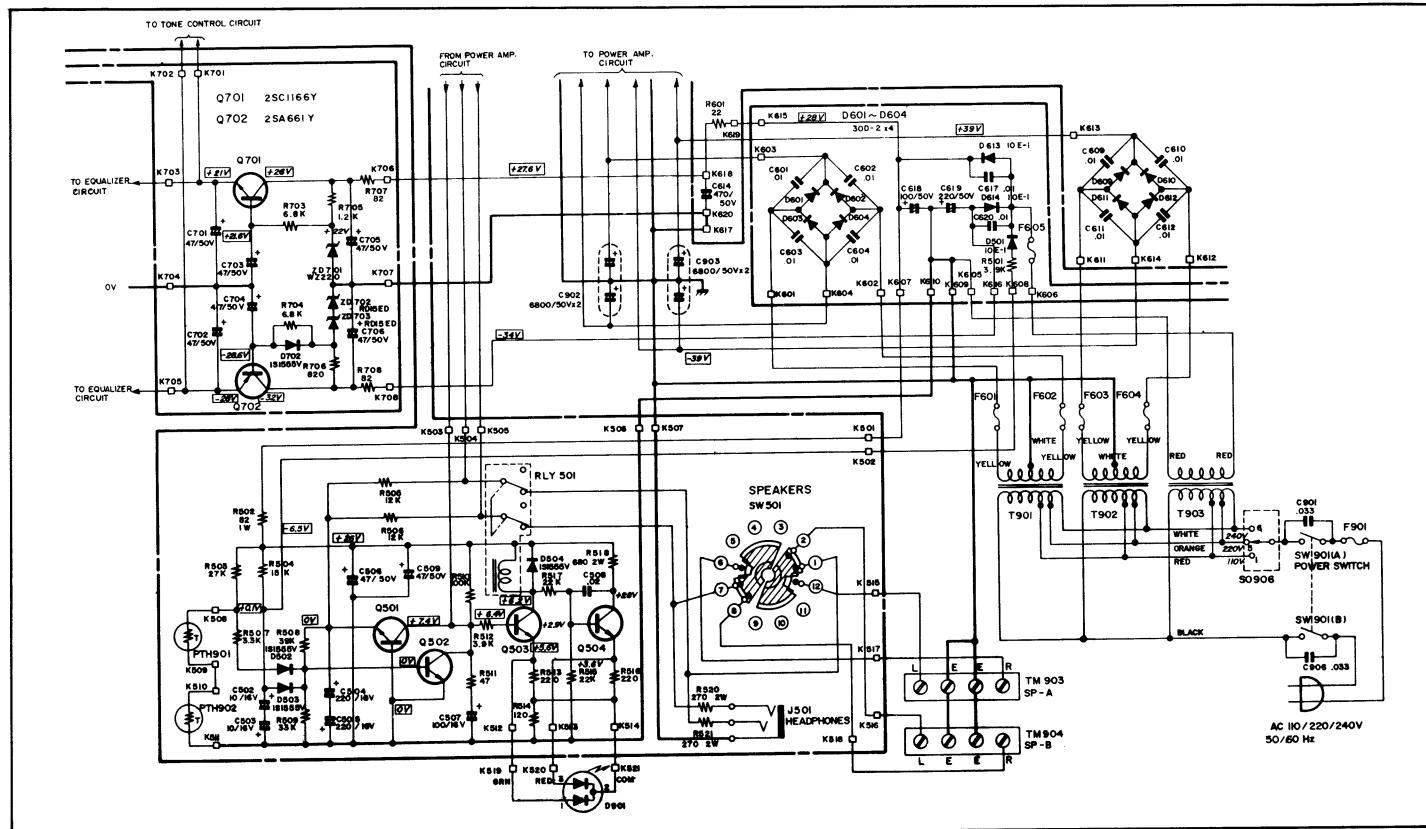

Figure 9
■ **RELAY CIRCUIT** (See Figure 9)
In the case of the power switch being turned "ON" (See Figure 9)
In the case of the power switch being turned "OFF" (See Figure 9 and 10)
In the case of DC voltage being created at the speaker terminals A or B (TM903, TM904) (See Figure 9 and 14)
In the case of the temperature of heat sink increasing abnormally (See Figure 9 and 12)